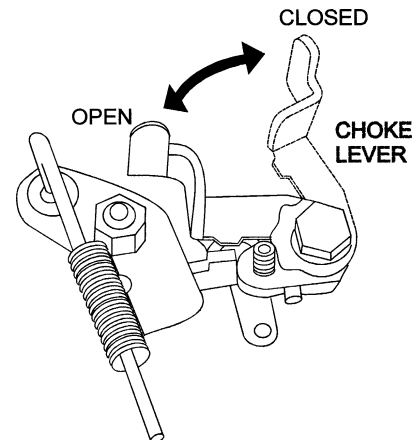

Figure 9. Choke Lever (Closed)
4. In cold weather, start the rammer with the **choke lever** in the **"Fully Closed"** position (Figure 9). In warm weather or when the engine is warm, the unit can be started with choke halfway or completely **open**.
6. If engine fails to start, move the choke lever (Figure 9) to the half open position to avoid flooding.